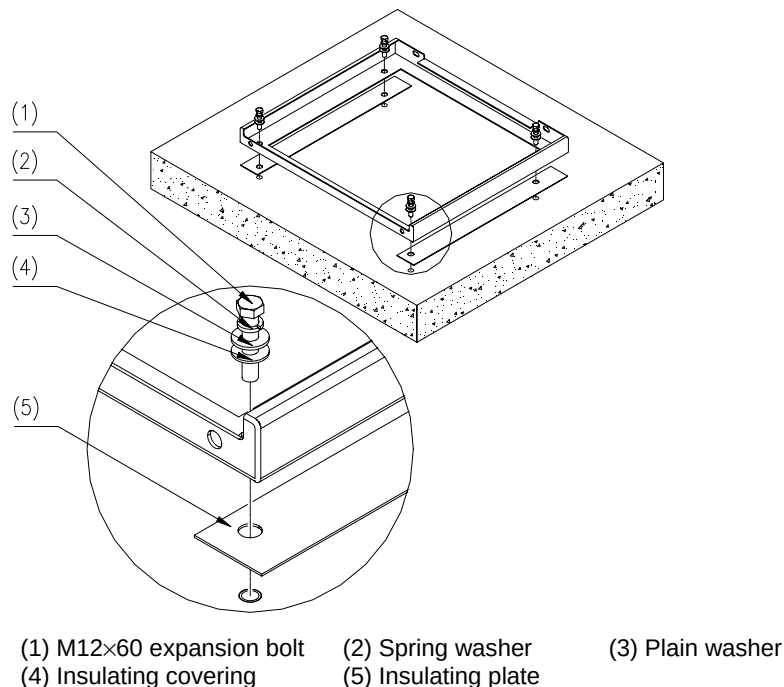

Figure 2-9 Installing the lower support
- 4) Diagonally fasten them to a 45 N·m (400 in·lb), as shown in Figure 2-9.